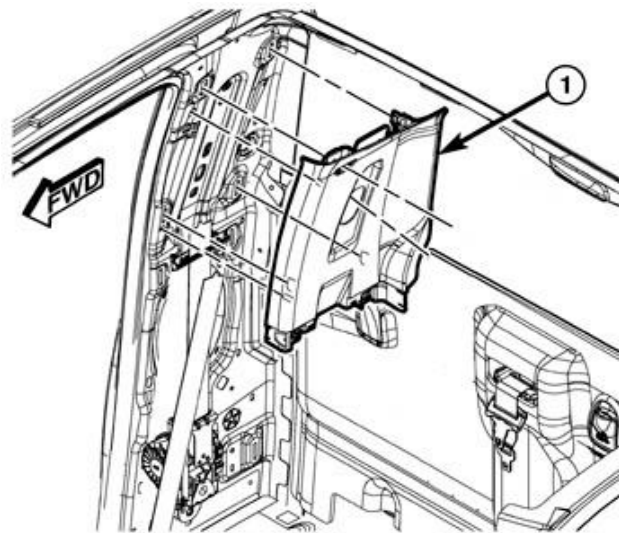

Figure 64 – C-Pillar Upper Trim Panel
15. Release the retaining clips and remove the C-pillar upper trim panel (1) (Figure 64).
56. Install the C-pillar upper trim panel (1) and engage the retaining clips fully (Figure 64).